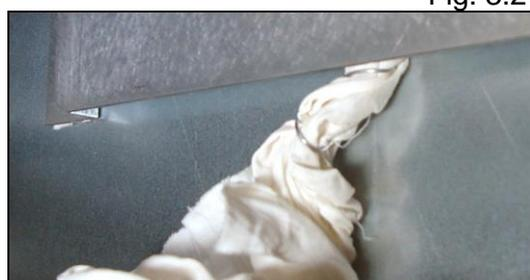

Fig. 3.25
12. Wrap the cloth with the wire and arrange it to pass between the tube and the side panel (Fig. 3.25).